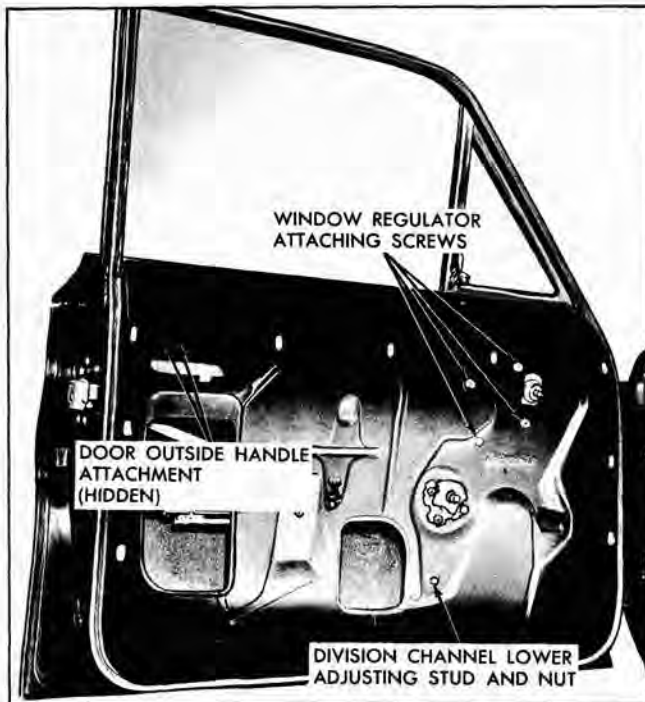

Fig. 13-21 Door Inner Panel
5. Remove window regulator attaching screws and work window regulator rearward to disengage arm from window lower sash channel cam and remove regulator from door (Fig. 13-21).